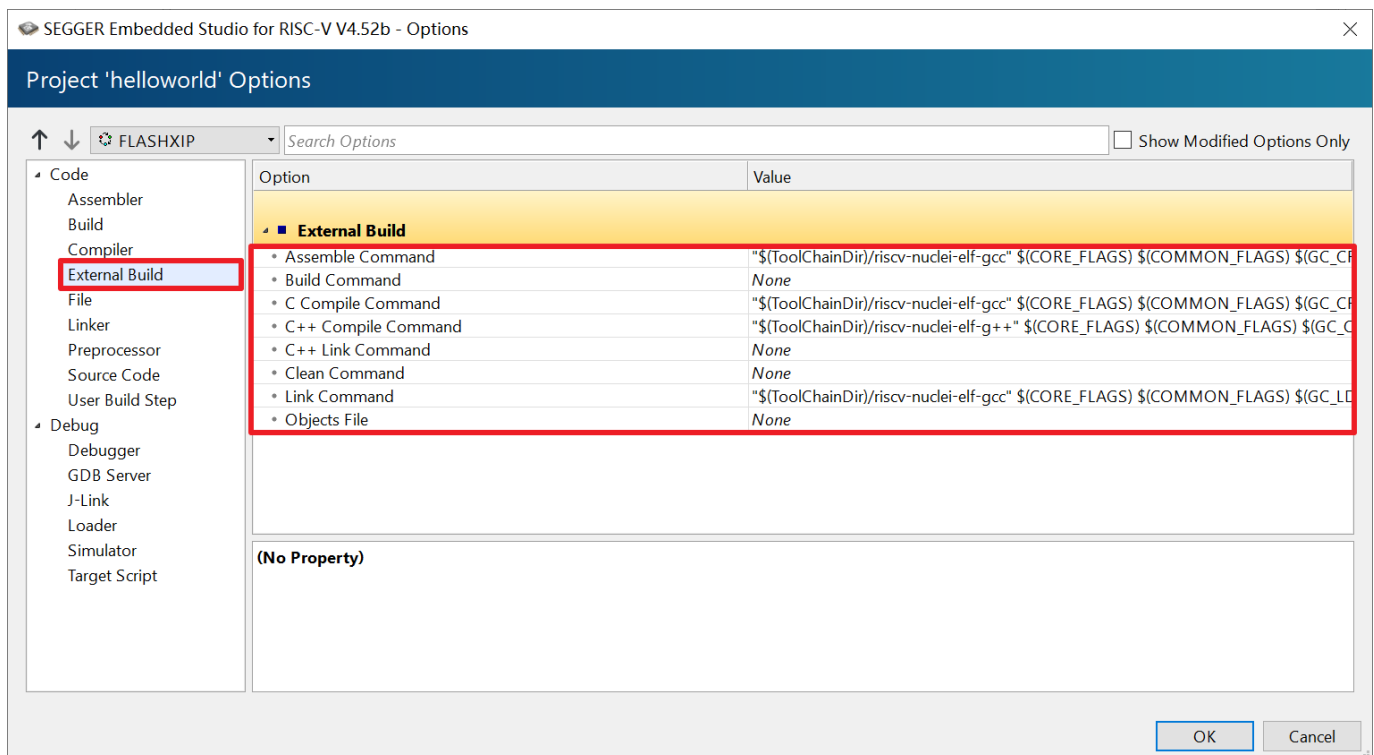

Figure 2-16 Change compilation options
- Modify the compilation options, as shown in Figure 2-16. Fill in the compilation instructions as follows.